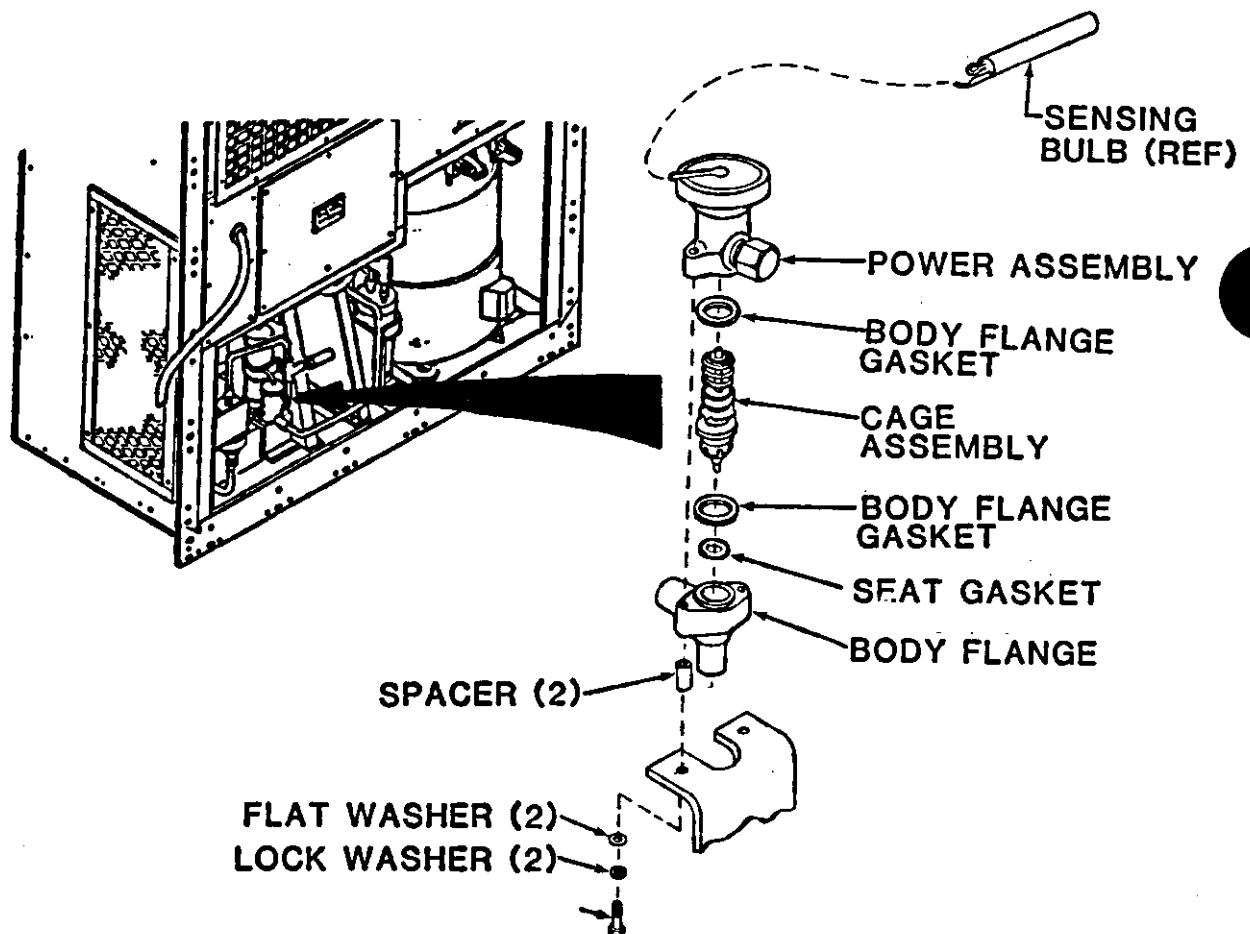

Figure 5-43. Quench Valve
- (1) If valve body flange was removed, purge the system with nitrogen and braze the two tubing joints. (See para 5-30 and 5-31.)
- (2) See figure 5-43 for valve component arrangement.
- (3) Place cap screws, lock washers, flat washers, and spacers through bracket and valve body flange.
- (4) Be sure that valve components are properly assembled and aligned. Secure power assembly to body flange.
- (5) Insert sensing bulb into its mounting loop clamp in its original position, and tighten the screw and nut. Be sure sensing bulb is making good metal-to-metal contact with suction line.